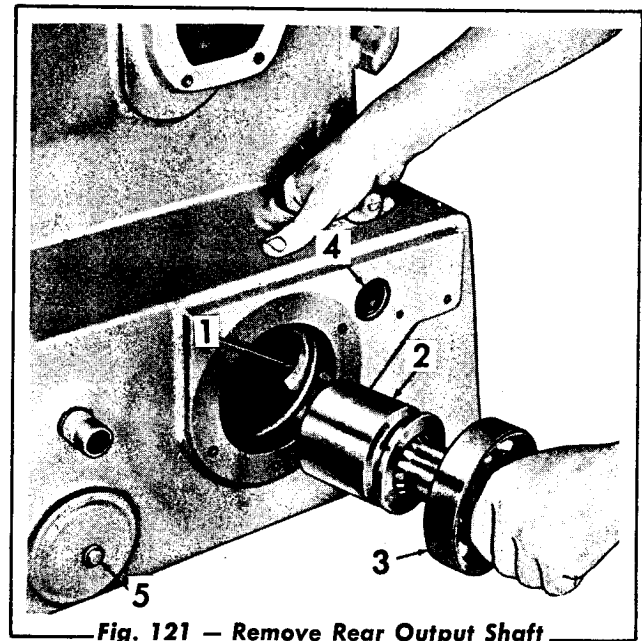

Fig. 121 — Remove Rear Output Shaft
4. Using one hand to hold the shifter fork (Fig. 121) in position, grasp the rear output shaft with the other hand and remove, as a